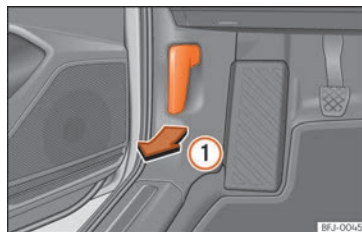

Fig. 310 Release lever in the driver's footwell area.
- Open the door and pull the lever under the dashboard »» Fig. 310 ①.